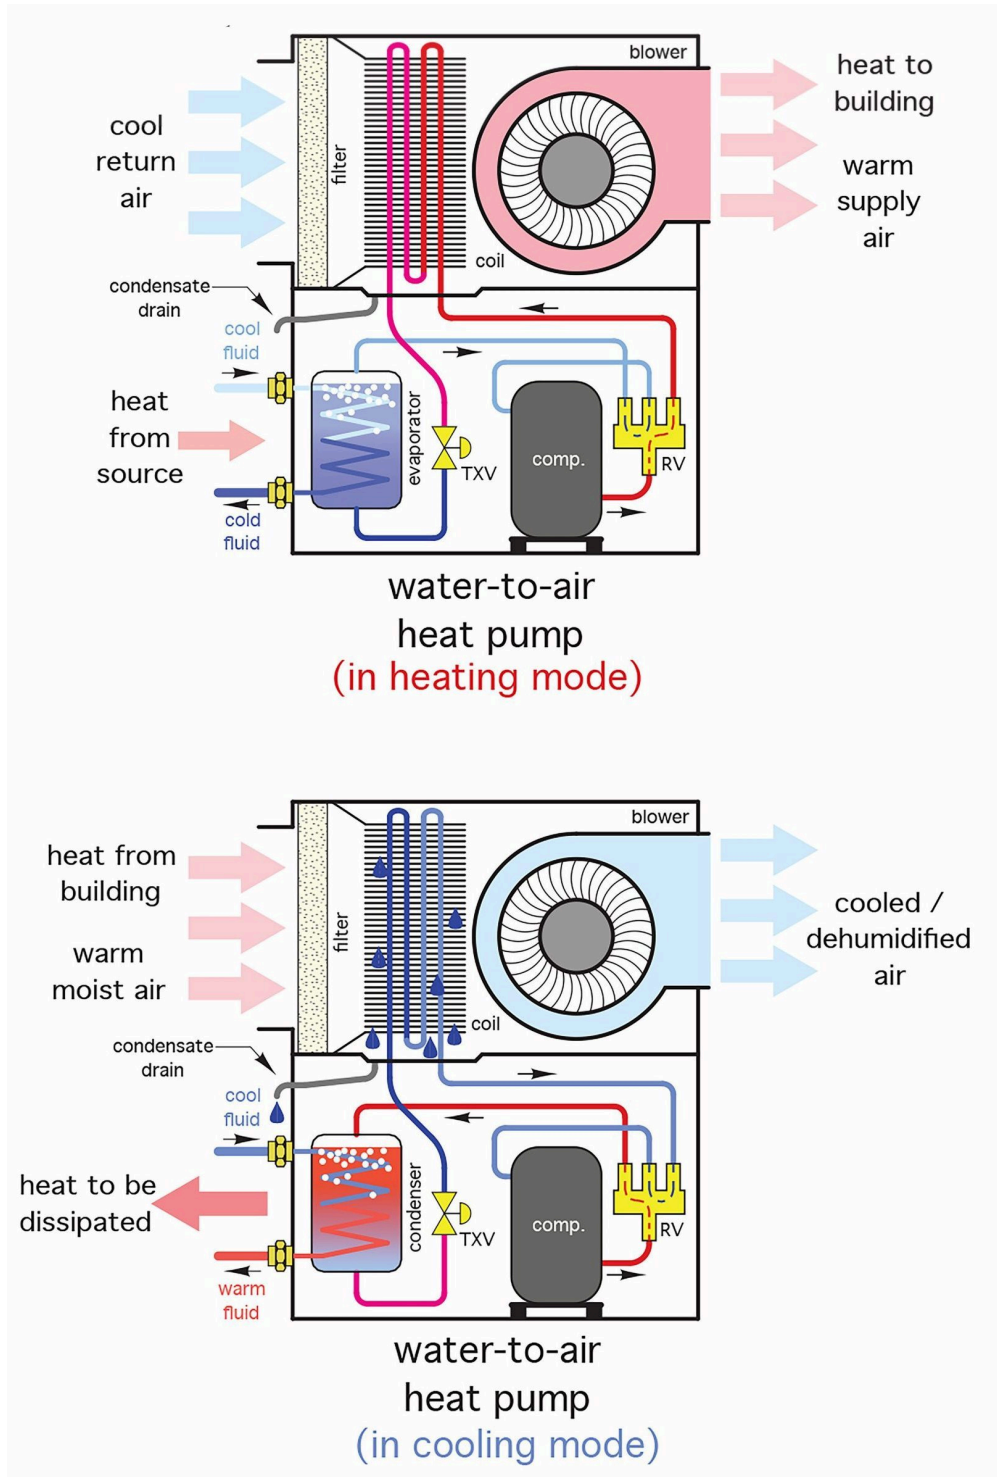

Figure 9 Reversible water-to-air heat pump
Figure 9 below is a schematic diagram of a reversible water-to-air heat pump.
- Figure 9 Reversible water-to-air heat pump © [Caleffi Hydronic Solutions \(https://www.caleffi.com/usa/en-us\)](https://www.caleffi.com/usa/en-us). Used with permission.